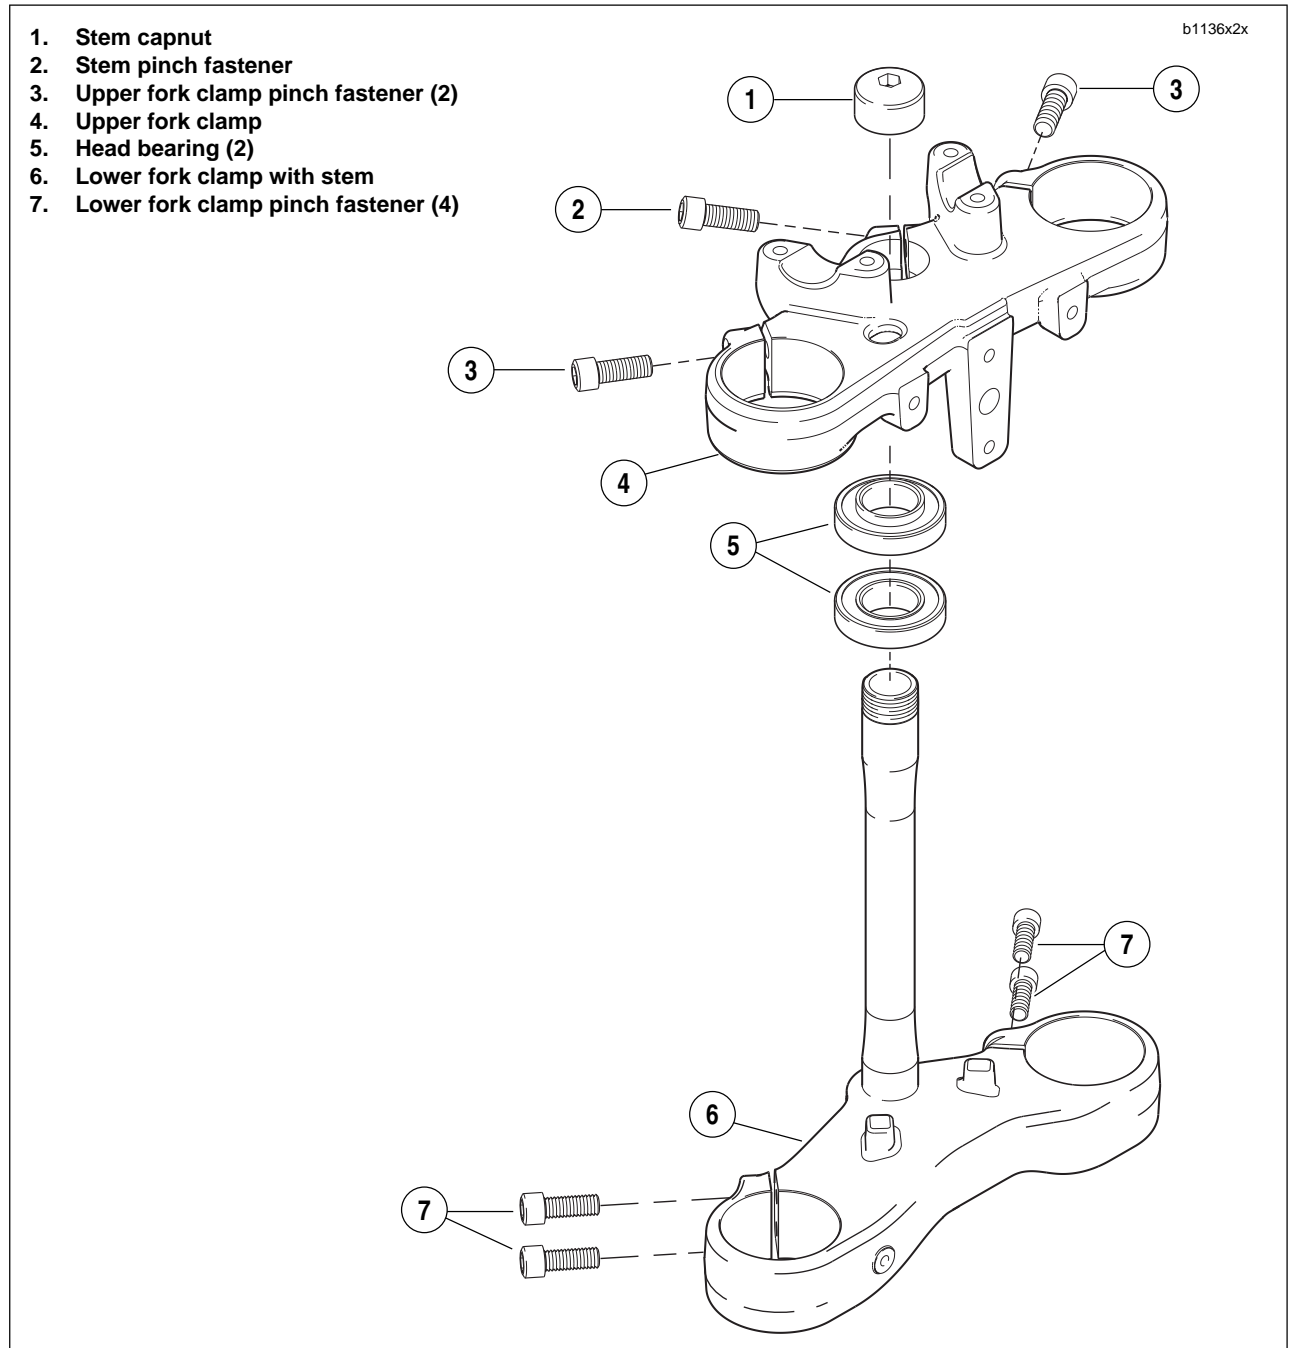

Figure 2-75. Steering Stem Assembly
5. See Figure 2-75. Remove steering stem pinch fastener (2).
6. See Figure 2-75. Hold or brace the lower fork clamp and remove steering stem capnut (1).
7. Remove the upper fork clamp (4).
8. Remove the lower fork clamp (6).
1. See Figure 2-75. Install the lower fork clamp (6) into the steering stem bore and install the upper fork clamp (4).
2. Install steering stem capnut (1). Tighten but do not torque.
- a. See Figure 2-75. Loosen steering stem pinch fastener (2) and upper and lower fork clamp pinch fasteners (3, 7).
- b. Brace wheel while removing steering stem capnut fastener (1).
- c. Remove upper fork clamp (4) and front-end assembly which includes front wheel, steering stem/lower fork clamp.
5. Remove upper and lower steering head bearings (5).